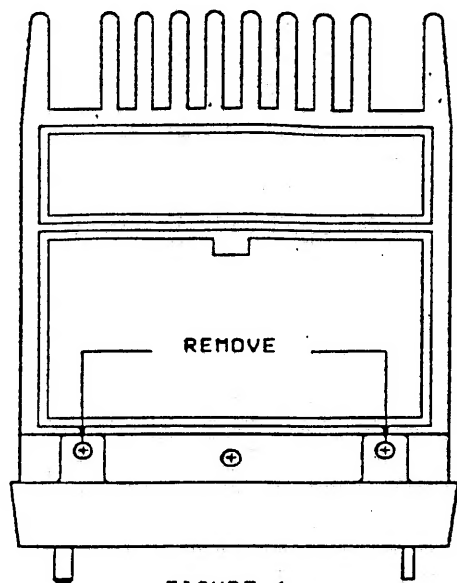

FIGURE 1
4. Remove the two brass colored screws from the top of the plastic front panel. **Figure 1**